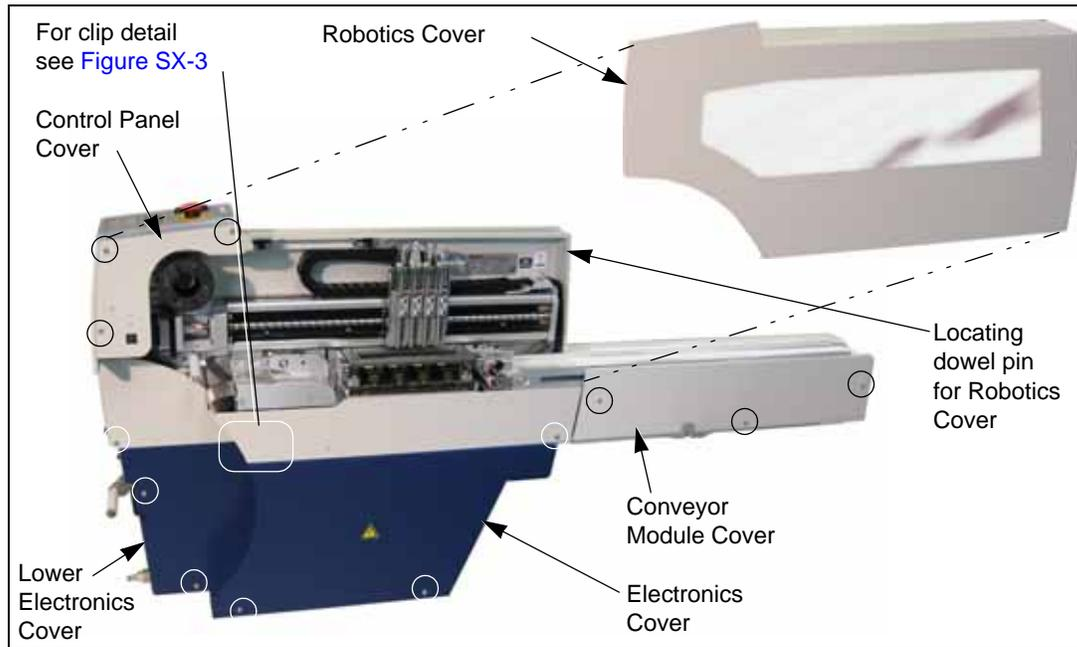

Figure SX-2—Covers (with Screw Locations Indicated by Circles)
4. Remove the three screws that hold the Electronics Cover to the chassis. For screw locations see Figure SX-2.
6. Remove the three screws that hold the Lower Electronics Cover to the chassis. For screw locations see Figure SX-2.
3. Remove the three screws that hold the Conveyor Module Cover to the chassis. *For screw locations see Figure SX-2.*
3. Remove the three screws that hold the Control Panel Cover to the chassis. *For screw locations see Figure SX-2.*